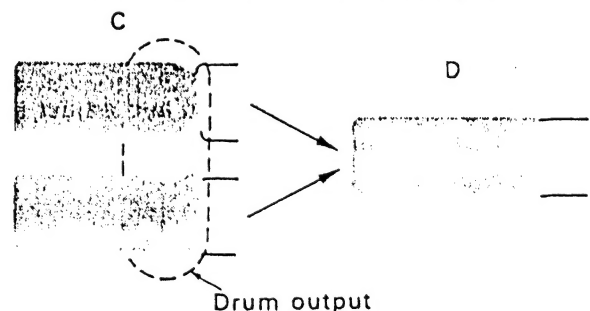

Fig.19 Drum output adjustment
- In the same manner as for the drum input, turn the take-up guide roller to adjust the falling portion (drum output portion) of the FM waveform. Incorrect examples are shown by C in Fig.19, while D indicates the correct adjustment.